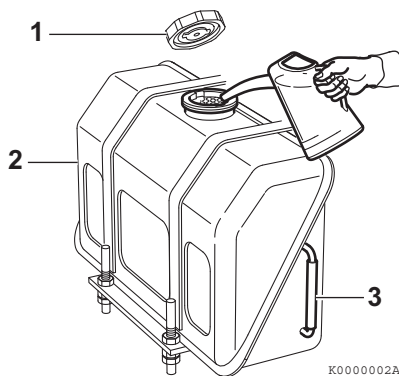

Figure 4-19
1. Clean the area around the fuel cap (**Figure 4-19, (1)**).
2. Remove the fuel cap from the fuel tank (**Figure 4-19, (2)**).
3. Observe the fuel level sight gauge (**Figure 4-19, (3)**) and stop filling when gauge shows fuel tank is full. Never overfill the fuel tank.
4. Replace the fuel cap (**Figure 4-19, (1)**), hand tighten. Over tightening the fuel cap will damage it.